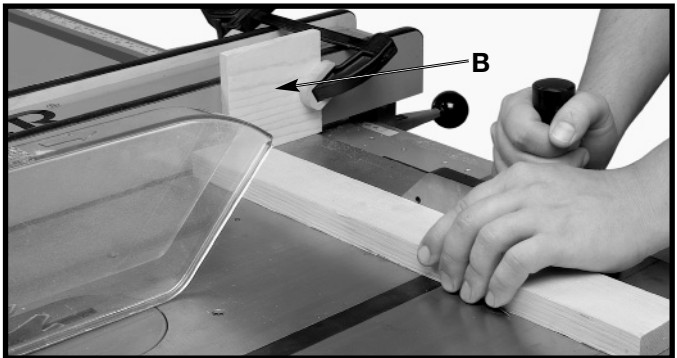

Fig. 44
⚠ CAUTION When using the block (B) Fig. 44, as a cut-off gage, it is very important that the rear end of the block be positioned so the work piece is clear of the block before it enters the blade.
When cross-cutting a number of pieces to the same length, a **BLOCK OF WOOD (B)**, can be clamped to the fence and used as a cut-off gage as shown in Fig. 44. It is important that this block of wood always be positioned in front of the saw blade as shown. Once the cut-off length is determined, secure the fence and use the miter gage to feed the work into the cut. This block of wood allows the cut-off piece to move freely along the table surface without binding between the fence and the saw blade, thereby lessening the possibility of kickback and injury to the operator.